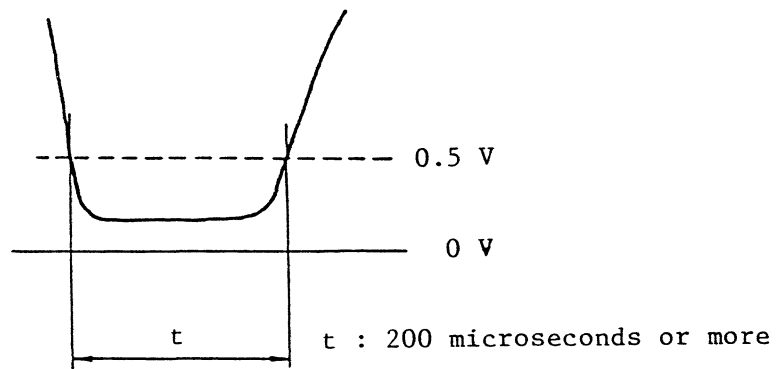

Fig. 429 Hole detection waveform at TP13
- (q) When the BOT hole passes through the front of the hole sensor, observe the hole detection waveform at TP13, and check if the time of the portion where the low level at the hole detection time is 0.5 V or less is 200 microseconds or more (Fig. 429).